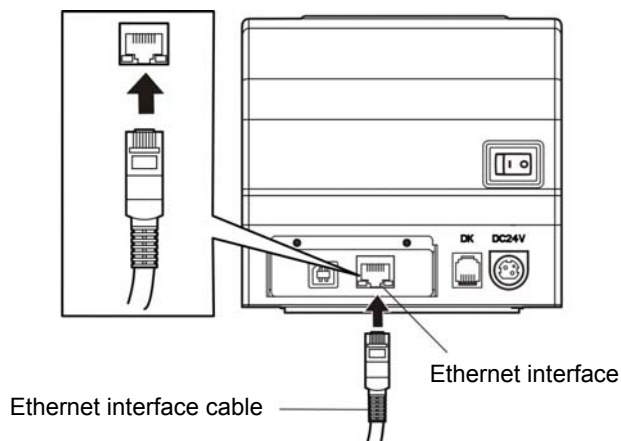

Figure 2-6 Connecting the Ethernet interface cable
1. Plug the crystal end of the Ethernet cable (RJ-45) into the printer's Ethernet interface and the other end to the LAN. (As shown in Figure 2-6)